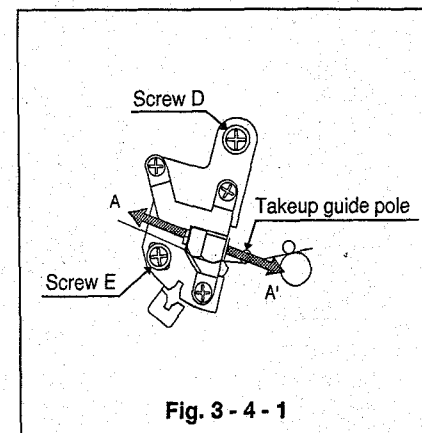

Fig. 3-4-1
- ⑦ If they are not within the specified value, repeat the procedure ③.
- ⑧ Turn the normal tracking control to adjust the FM waveform for maximum and set the oscilloscope so that the waveform is '5' divisions. (Refer to Note in Para. 3-2-5 about tracking adjustment.)
- ⑨ Preset tracking. (Refer to NOTE 1 in Para. 3.)
- ⑩ Check that the FM waveform on the oscilloscope is " 4.8 " or more divisions.
- ⑪ If the FM waveform is below " 4.8 " divisions, perform this adjustment after tracking preset.
- ⑫ Push the A/C head to the right and left (in the direction of A-A' in Fig. 3-4-1) and then release the A/C head. Check that the amplitude of the FM waveform does not change from that before shifting the A/C head....
- ⑬ If the amplitude changes, check if the A/C arm shaft is loose. If it is not loose, replace the A/C arm and repeat the procedure of this adjustment from the beginning, after the adjustment of A/C head in Item 3-3.
- ⑭ Alternately load and unload the tape several times to check that the amplitude of the FM waveform does not change.